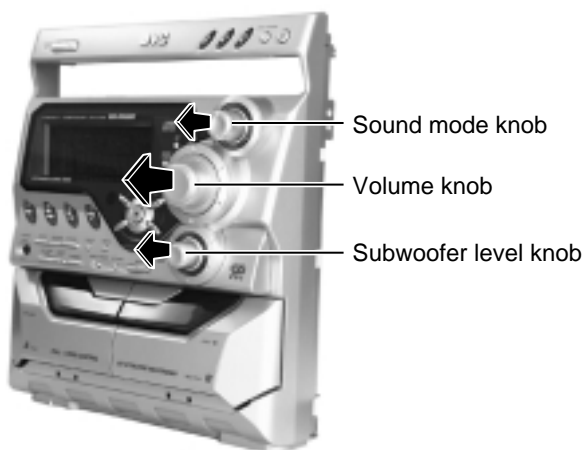

Fig.2
■Removing the front key board (See Fig.2 and 3)